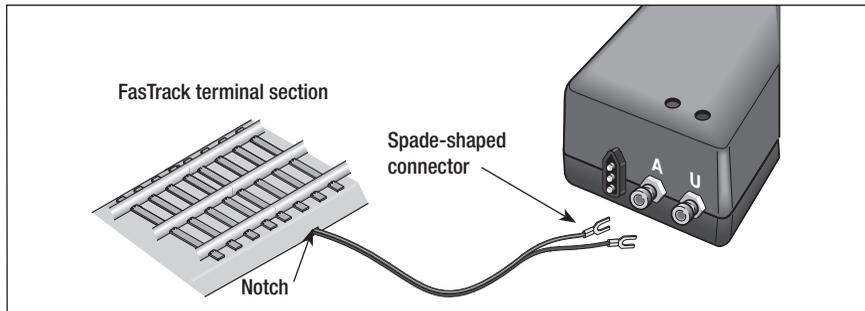

Figure 4. Transformer connections
If you are using the Lionel FasTrack track system, you will find that the terminal section easily connects to the PowerMaster's output terminals. Two wires are attached to the underside of the FasTrack terminal section (available separately, 6-12016). Attach the spade-shaped connectors at the ends of these wires to the PowerMaster. Be sure that the connections are secure. Follow these steps and refer to Figure 4.
- 1. Feed the wires through the notch in the FasTrack terminal section.** Refer to Figure 4.